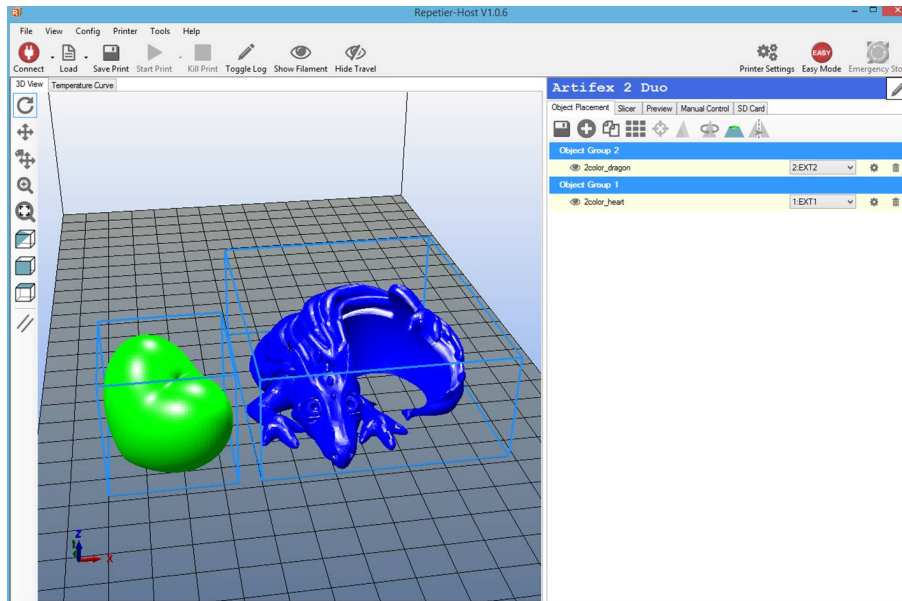

Figure 6.13: Selecting the extruder for each color
- Select the extruder for each color (Figure 6.13).